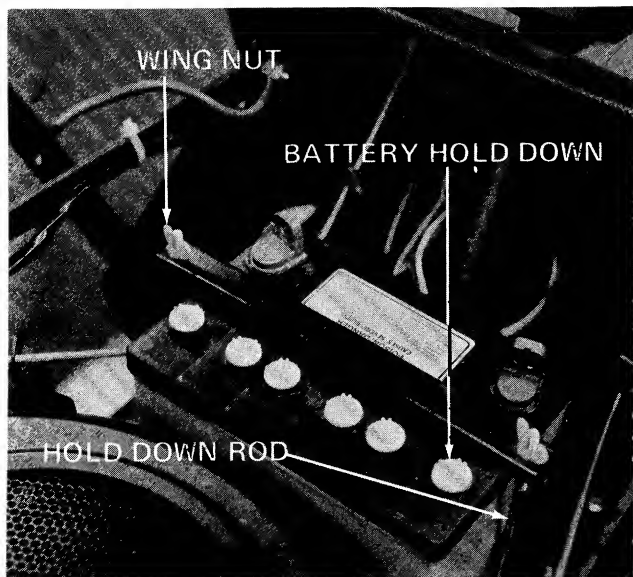

FIGURE 1
2. Secure the battery with the two hold down rods, battery hold down, lock washers and wing nuts. See figure 1.